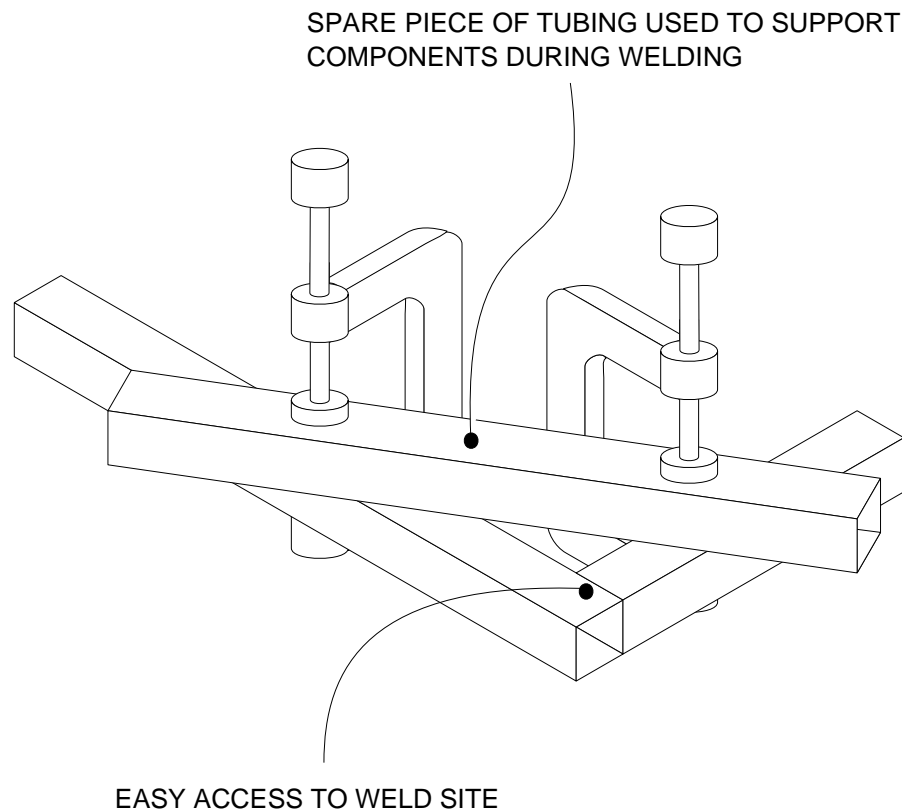

Figure 2: supporting components during welding.
2) Next weld the three U-shaped frames together. You might find the method shown in Figure 2 the easiest way to support the components during welding. It's quick and if you do not tighten the clamps too tight to start with, you can tap the bits with a hammer until everything is square and